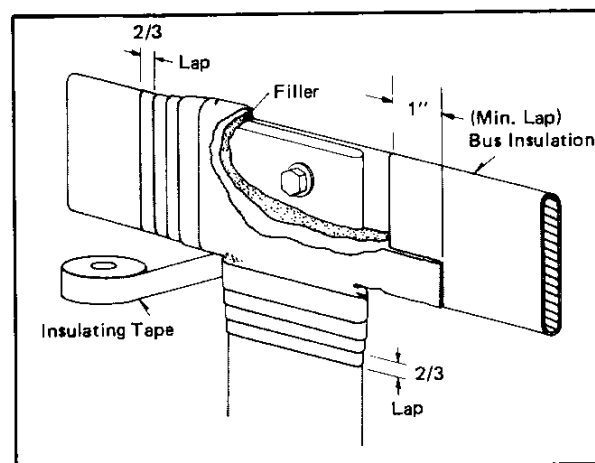

Fig. 6 Field Taping of Electrical Connections
3.6 Field Taping of Electrical Connections (See Fig. 6)